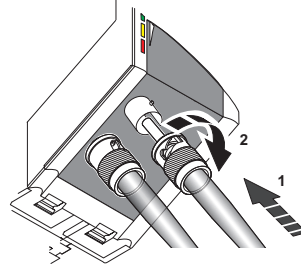

Figure 15 B-FOC connection
- Secure the connection with a quarter turn to the right (see 2 in Figure 15).